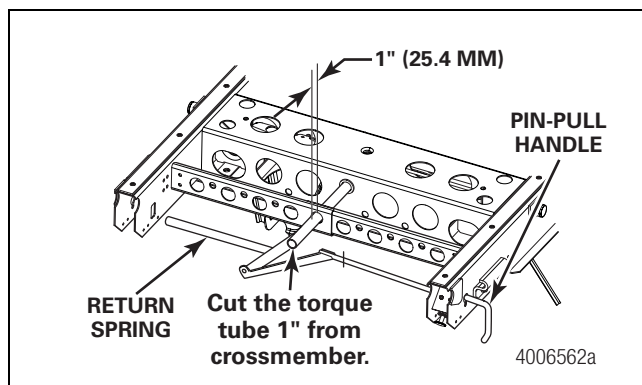

Figure 1
4. Remove the return spring. Cut the pin-pull torque tube and remove the pin-pull handle from the slider frame. Figure 1.